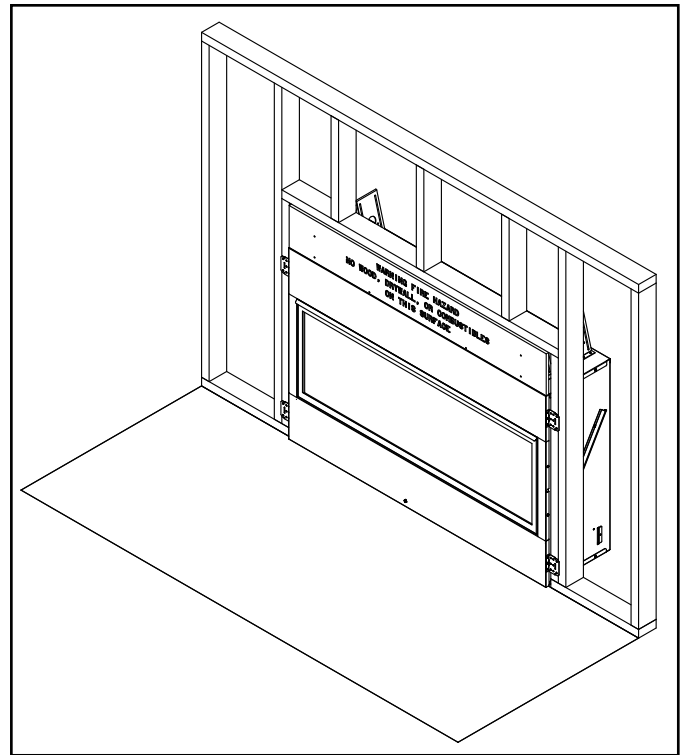

Figure 3.14 - Floor Protection
**Note:** Figures 3.14 and 3.15 show the appliance installed on the floor. However, this appliance can be elevated off the floor provided that the appliance is properly supported by framing materials and the ceiling clearances are maintained.